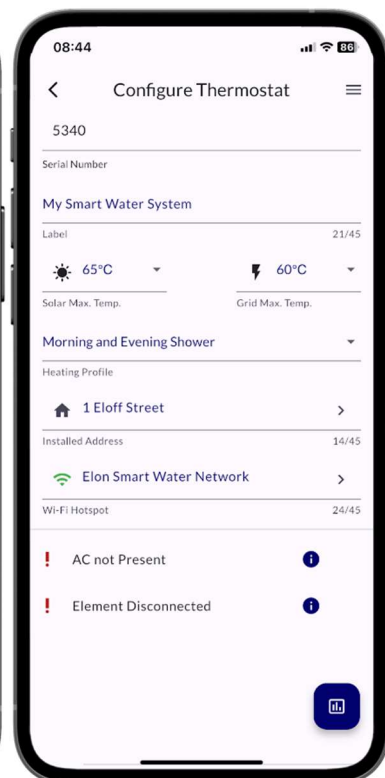

Figure 4.15 Heating settings
46. The app should take you back to the “**Configure Thermostat**” screen (**Figure 4.15**).
50. If there are any problems with the installation, an alarm will display below the configuration settings, indicated by a red exclamation mark (!) (**Figure 4.15**). See Appendix A for a list of alarms and how to resolve them (if needed).